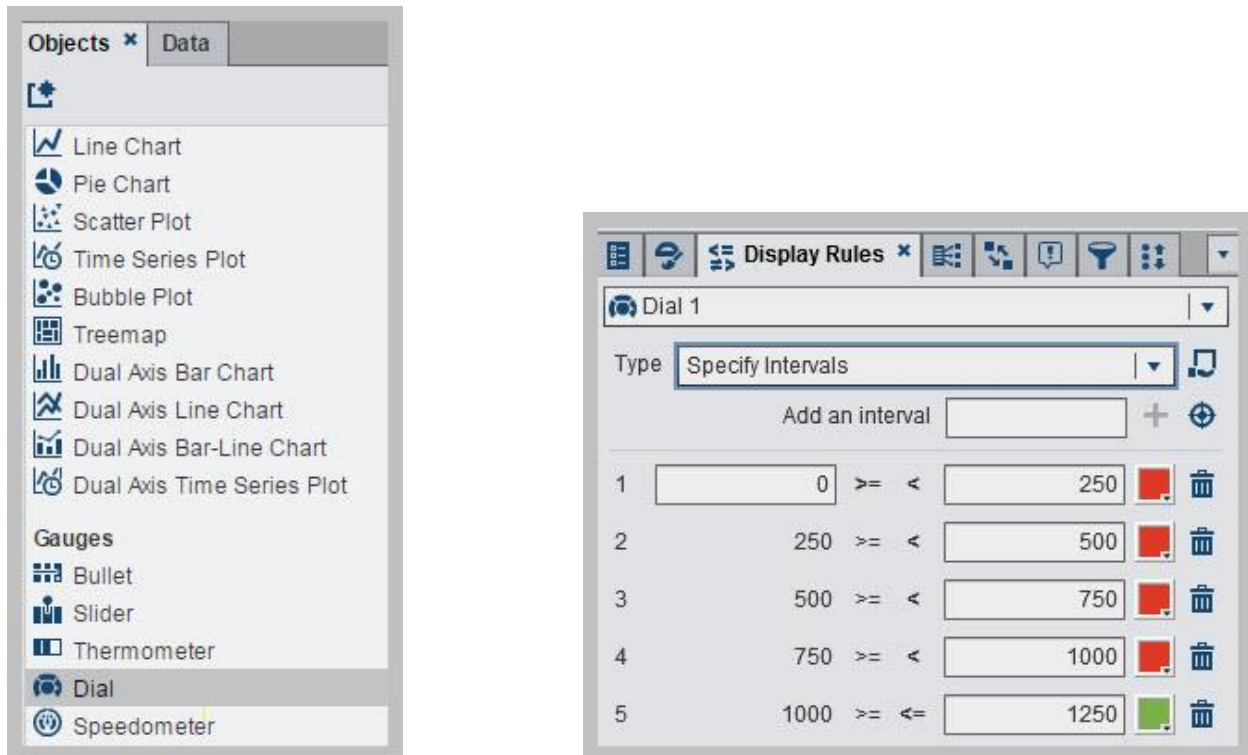

Figure 3 Dial Gauge and setting up Intervals using Display Rules for Dial Gauge
Rim thickness intervals are set using the display rules and if the predicted rim thickness falls below 1 inch thickness then it is considered to be wheel failure. Figure 3 shows steps to select a dial gauge and also the options to set up the intervals in the display rules tab which involves the following steps
2. In the right pane, click the Display Rules tab. Figure 3 explains how to specify the display rules for the gauge. Populate the intervals, edit the display rule, and specify the Type.